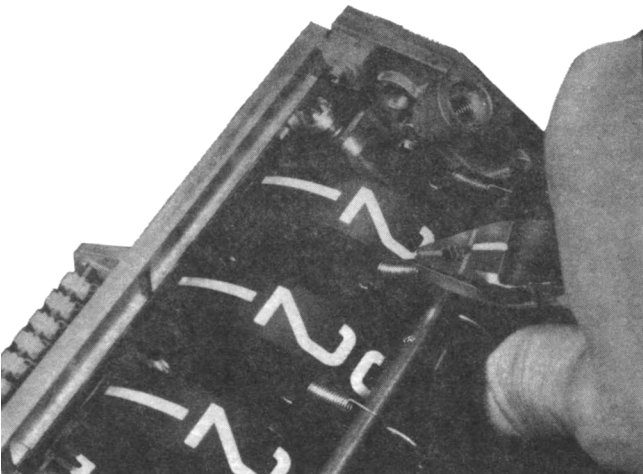

Figure 22. Anti-Topping Finger Spring Installation.
- Install the five anti-topping finger springs between the anti-topping fingers and the stop shaft. See Figure 22.